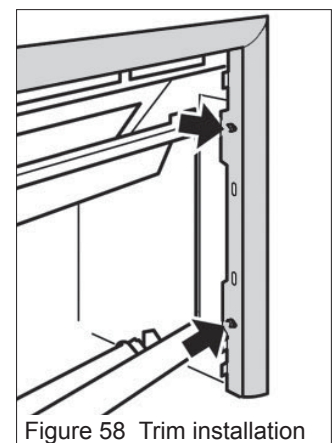

Figure 58 Trim installation
4. Attach the complete trim unit to the firebox with four screws. See figure 58.